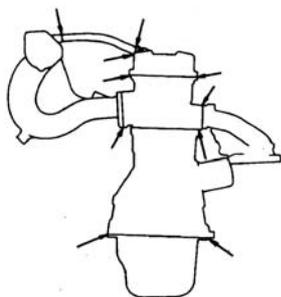

Figure 107
- (e) Start the vehicle after warming up the engine to confirm the VSV status is changed from disconnected to connected. See (Figure 107).